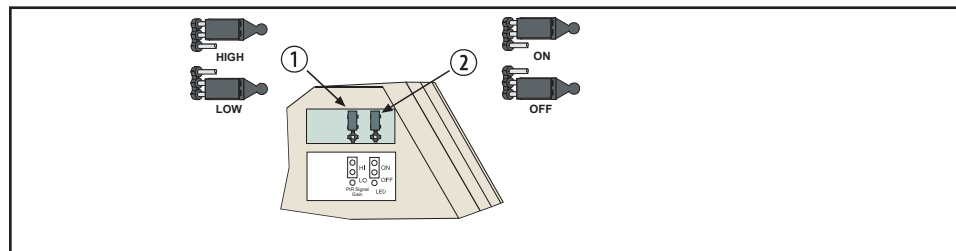

Figure 5.1: Feature Selection
Refer to *Figure 5.1*. For selection, place the plug across the appropriate pins (1). No jumper across the “HIGH/LOW” pins puts the detector in a “High” setting. **Low Sensitivity (LO):** The recommended setting for most installations. This setting tolerates environment extremes. **The detector is shipped in Low Sensitivity mode.** **High Sensitivity (HI):** Use in locations where adequate catch performance is not achieved in the Low Sensitivity mode. This setting tolerates only minor environmental changes.
Refer to *Figure 5.1*. The ON position allows operation of the LED (2). If LED indication is not desired after setup and walk tests are completed, place in the OFF position. **No jumper across the “ON/OFF” pins disables the LED.**